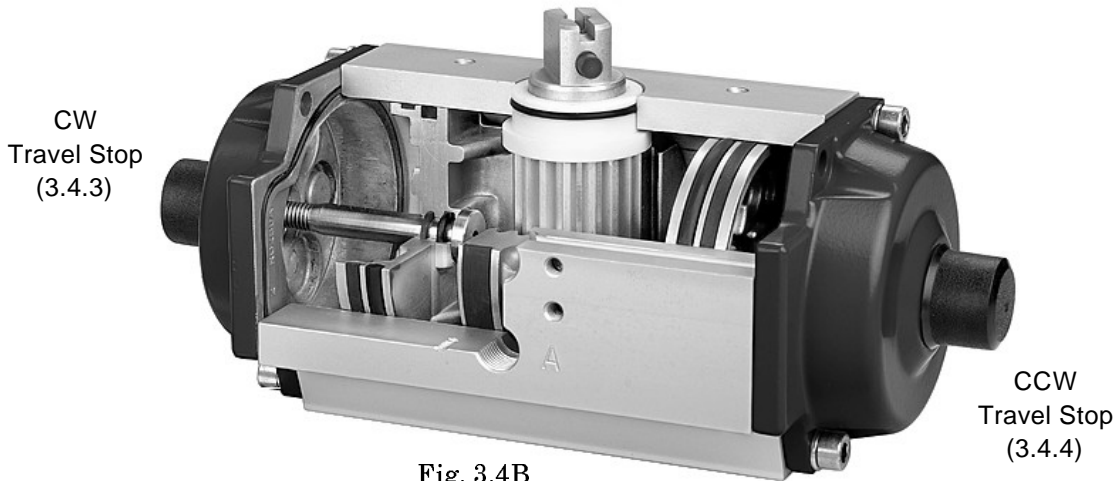

Fig. 3.4B
3.4.1 The travel stop set screws for CCW and CW position are located in the end caps under the plastic coverings. Looking at the ports A & B of the actuator, see figure 3.4B, the travel stop set screw for the CCW position is incorporated in the right end cap and the travel stop set screw for the CW position is in the left end cap.